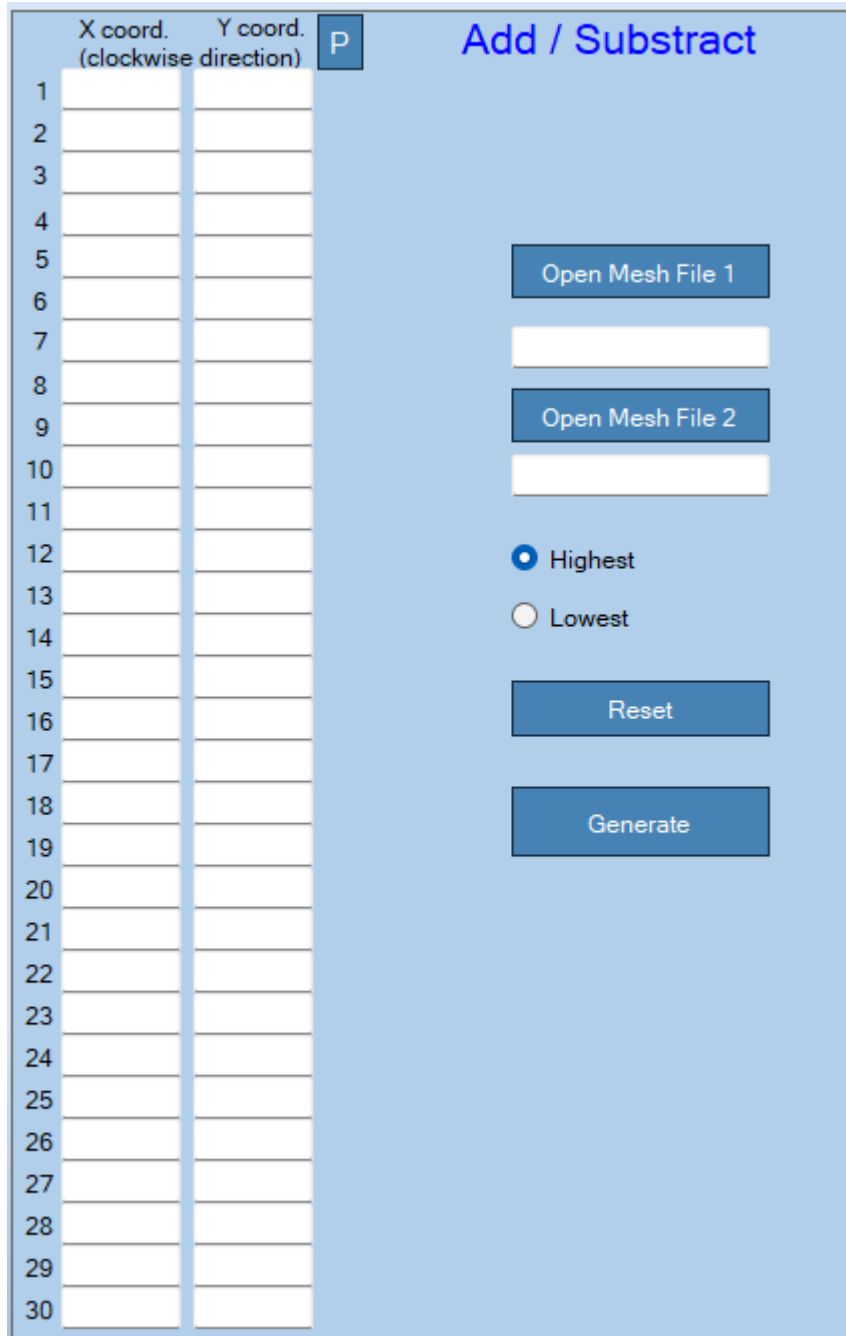

Figure 34: 3D Surfaces Menu – Add / Subtract.
- 3D Surfaces Menu, Add / Subtract Mesh:** This menu option (shown in Figure 34) operates an Addition or Subtraction between two 3D surfaces.